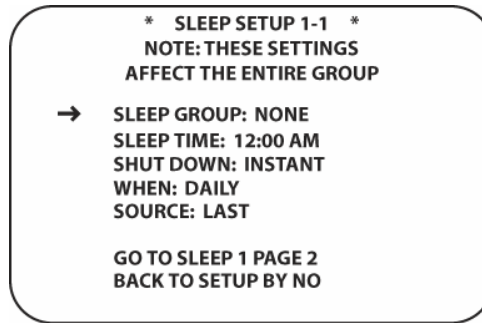

Figure 116 Sleep Setup 1-1
3. Using the ▼/▲ **Navigation Button [oval 16]** position the cursor next to SET SLEEP TIMES. Press the **Set Button [oval 18]**. The SLEEP SETUP 1-1 screen will appear. (Figure 116)